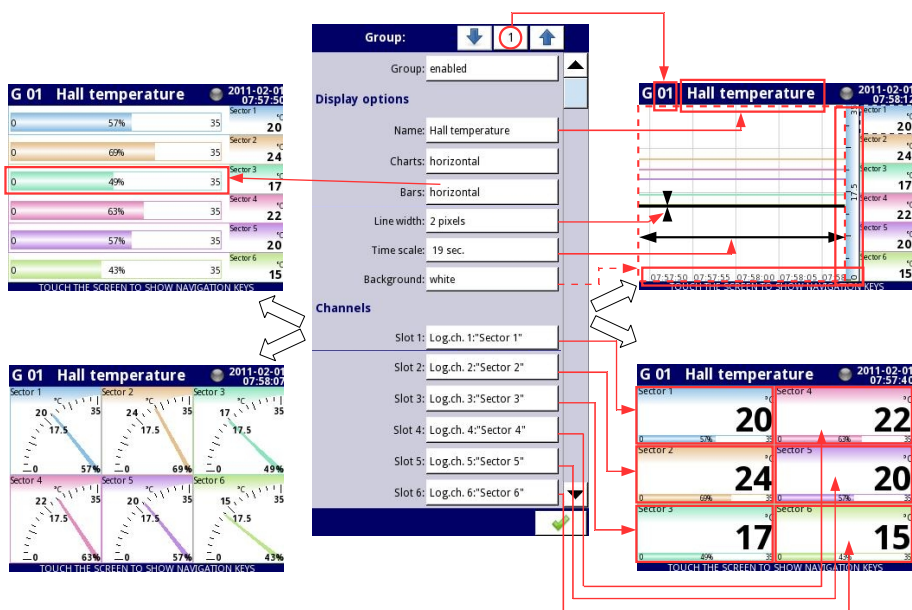
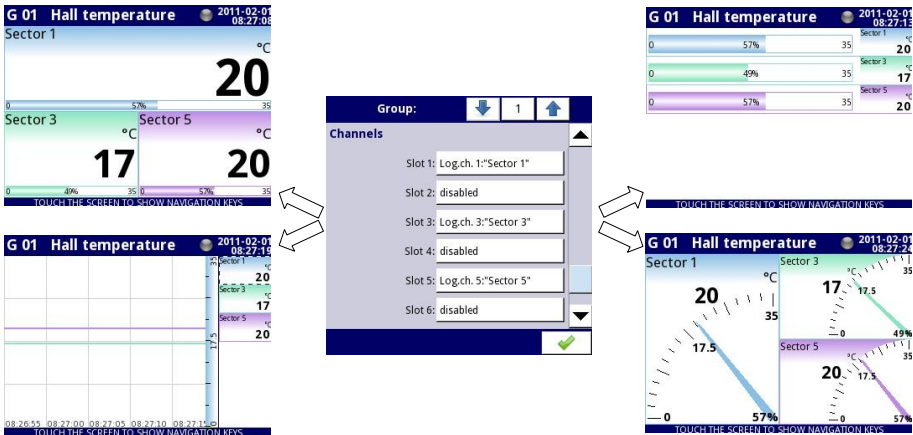

Fig. 7.115. Sample of **Group** parameters settings - all Slot set to **Logical channel**
Fig. 7.117. Sample of **Group** parameters settings - Slots set to **Logical channel** and set to **disabled**
- **Slot 1÷6** - in each slot user can select a option (see **Fig. 7.115÷Fig. 7.117**):